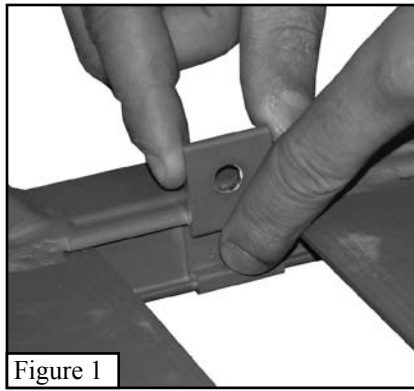

Figure 1
Step 1. Insert the Footrest Bracket into the perimeter tube as shown in **Figure 1**. This bracket should be placed between the first and second rung from the front of the platform.